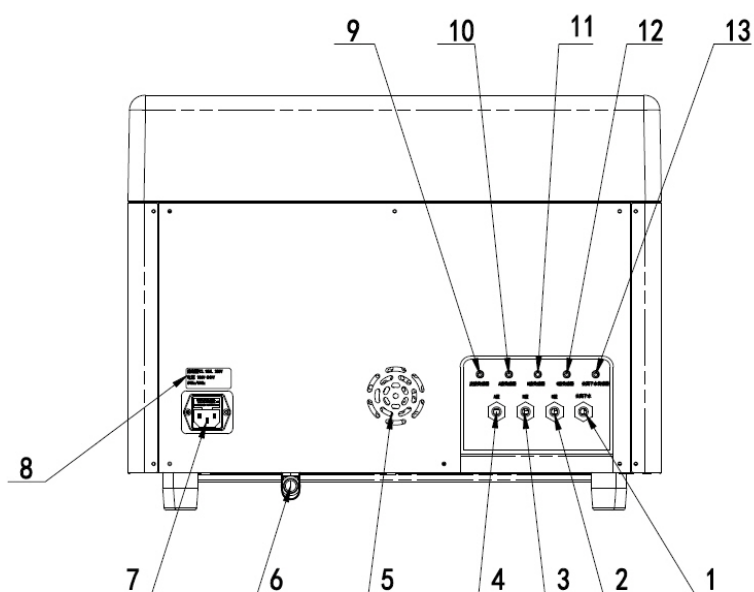

Figure 1-3 Diagrammatic Sketch of Rear Side of Instrument
- **Connection of Cleanser Tube:** As shown in Figure 1-3, when you face the back of the instrument, connect the tubes of Cleanser A bottle, Cleanser B bottle, Cleanser C bottle and deionized water bottle in turn from left to right.
- **Connection of Signal Cables:** As shown in Figure 1-3, when you face the back of the instrument, connect the signal cables of the waste liquid container, Cleanser A bottle, Cleanser B bottle, Cleanser C bottle and deionized water bottle in the order of the bottles from left to right.